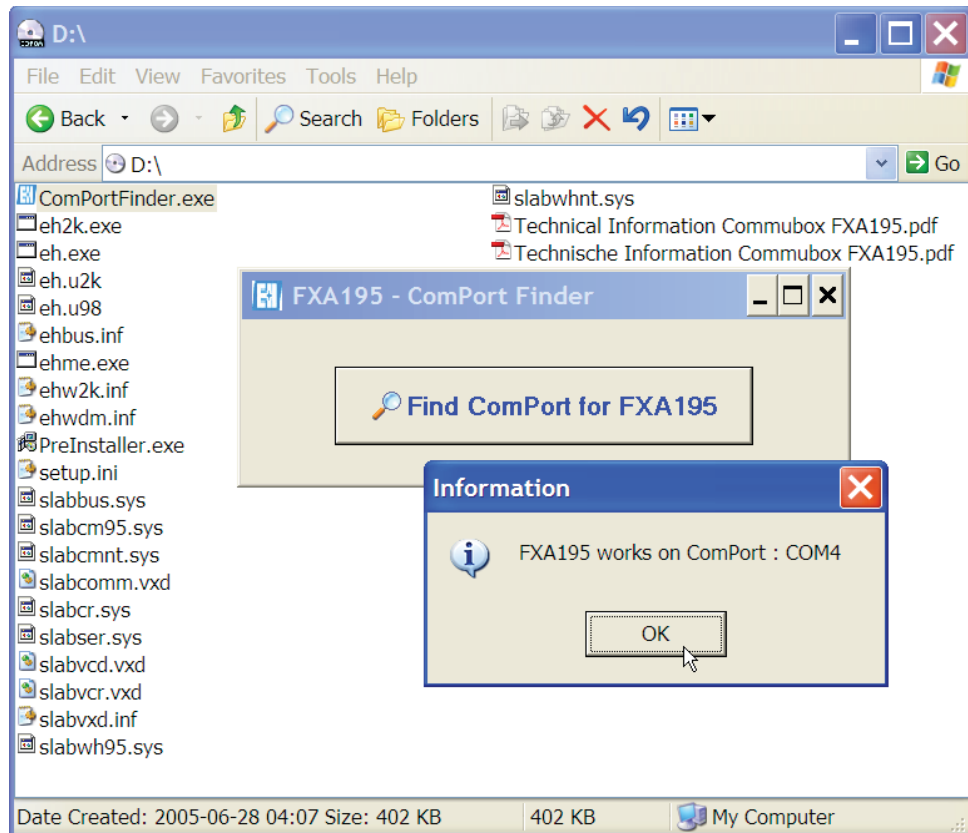

Figure 2-8. ComPort Finder utility.
3. Verify what COM port the Commubox is connected to. You can do that by using *Windows Device Manager* or the *ComPort Finder* utility provided on the Commubox driver CD (Figure 2-8).